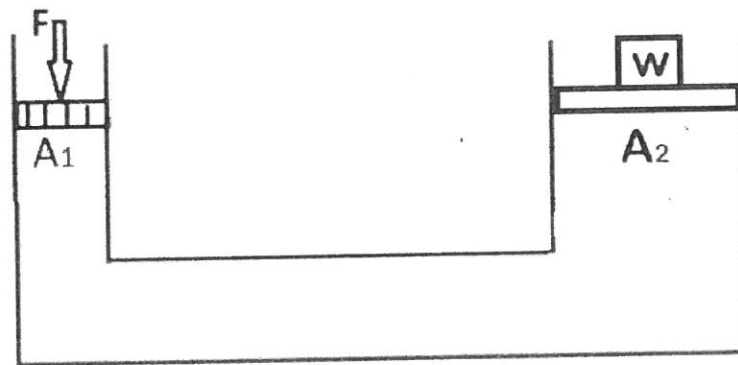

Figure 2 (b)
- b) A force, F of 650N is applied to a small piston of a hydraulic jack as shown in Figure 2 (b) below. The diameter of the small piston is 25 cm and diameter of the large piston is 80cm respectively. Locate the load that can be lifted if large piston is located same level with the small piston. Water is used as a medium of fluid for the hydraulic jack.